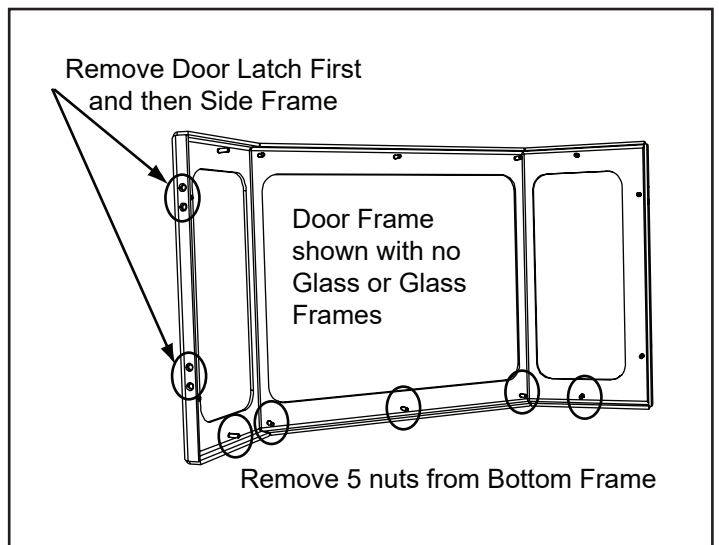

Figure 26.2
- Using a nut driver remove the (5) bottom nuts and remove the bottom glass frame. **Figure 26.2.**